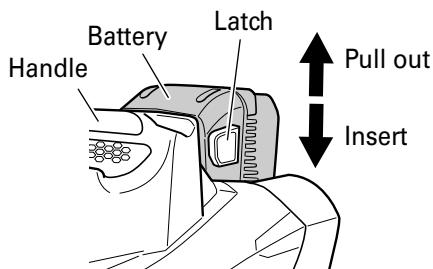

Fig. 4
Hold the handle tightly and push the battery latch (2 pcs.) to remove the battery (see Fig. 4).
Always insert it all the way until it locks in place with a click. If not, it may accidentally fall out of the tool, causing injury to you or someone around you (see Fig. 4).
2. Mounting the battery (Fig. 4)